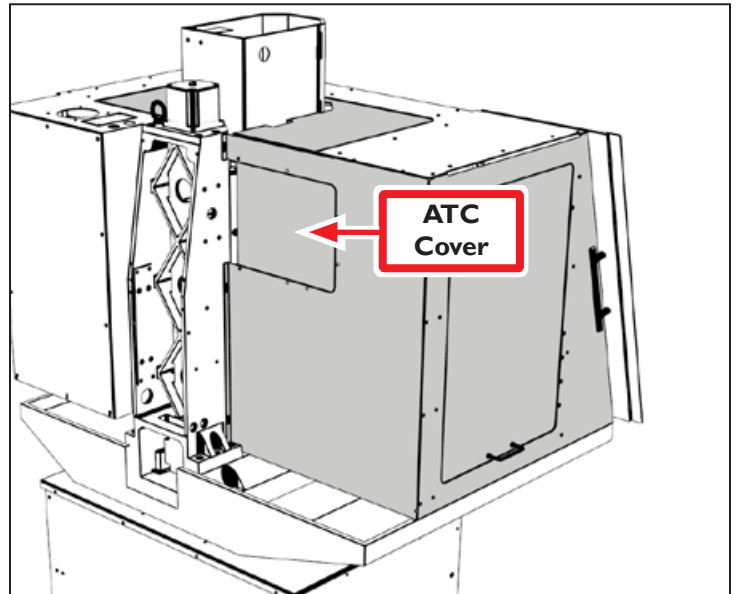

Figure 33
1. From the enclosure's left back panel, remove the ATC Cover (see **Figure 33**).